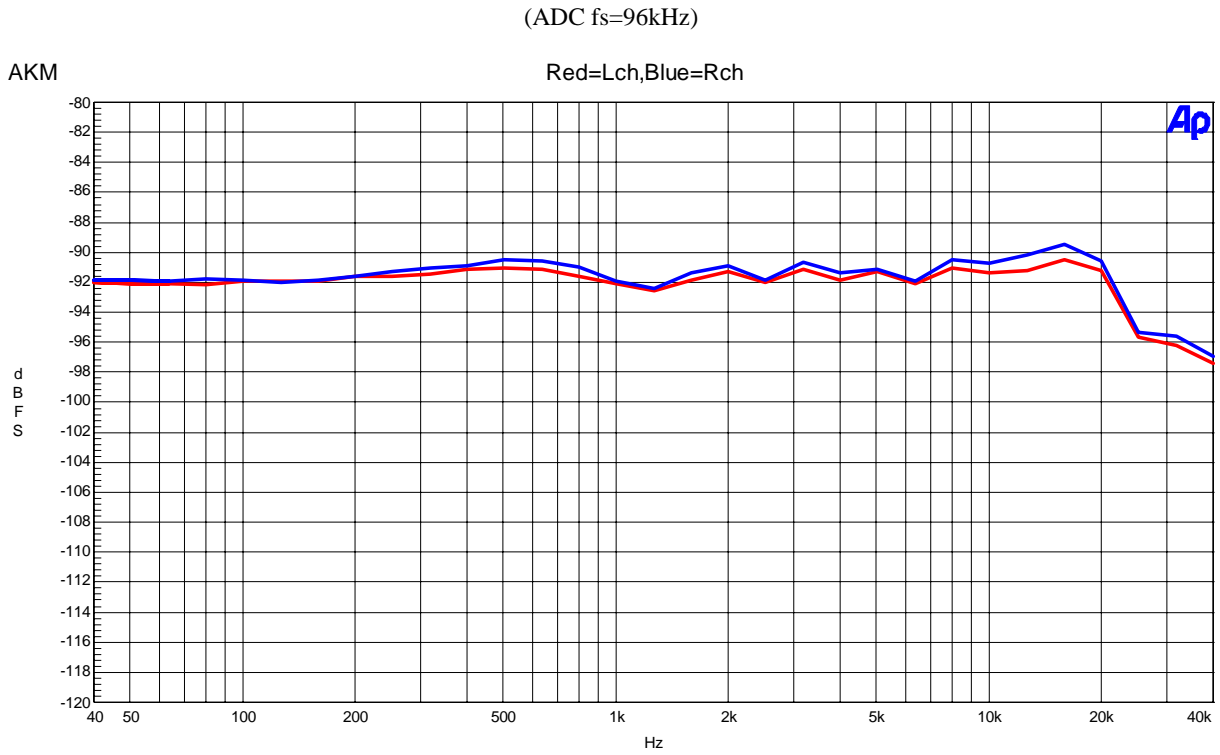

Figure 20. THD + N vs Input Frequency (Input Level=-0.5dBFS)
- Figure 20. Linearity (Input Frequency =1kHz)